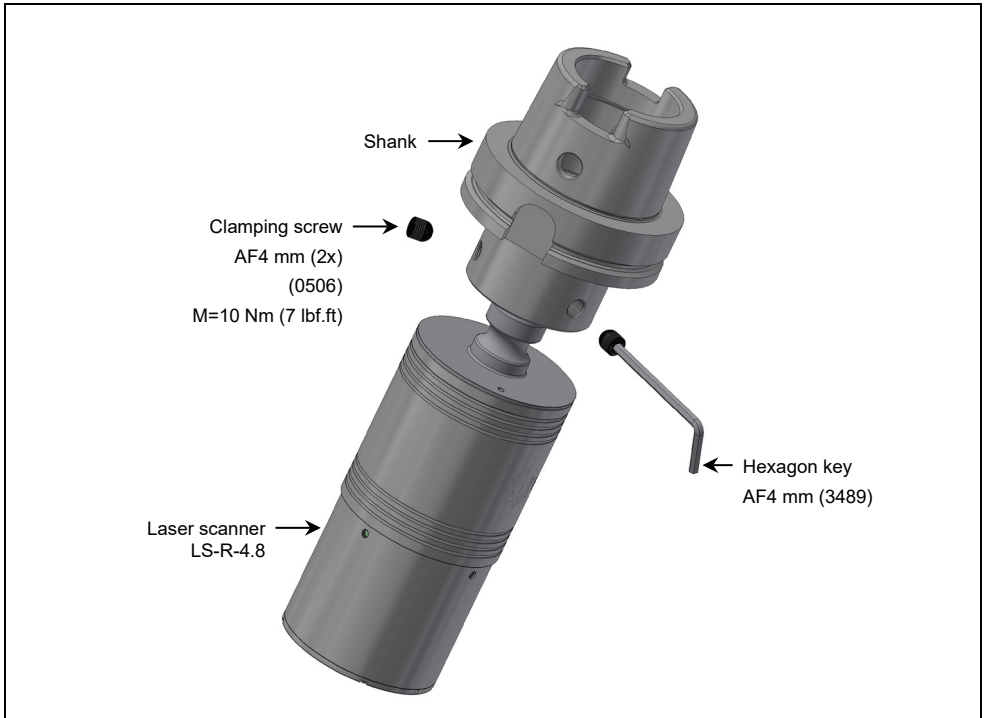

Fig. 7 Mounting/dismounting the shank
- 2.2 Insert the clamping screws and tighten to the torque specified in Fig. 7.